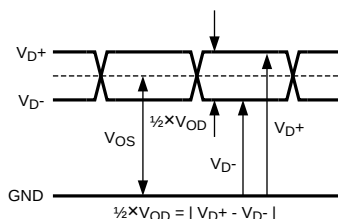

**Figure 4-1. LVDS Output Signal Levels**
**LVDS OUTPUT OFFSET VOLTAGE ( $V_{OS}$ )** is the midpoint between the D+ and D- pins output voltage with respect to ground; i.e.,  $[(V_{D+}) + (V_{D-})]/2$ . See Figure 4-1.